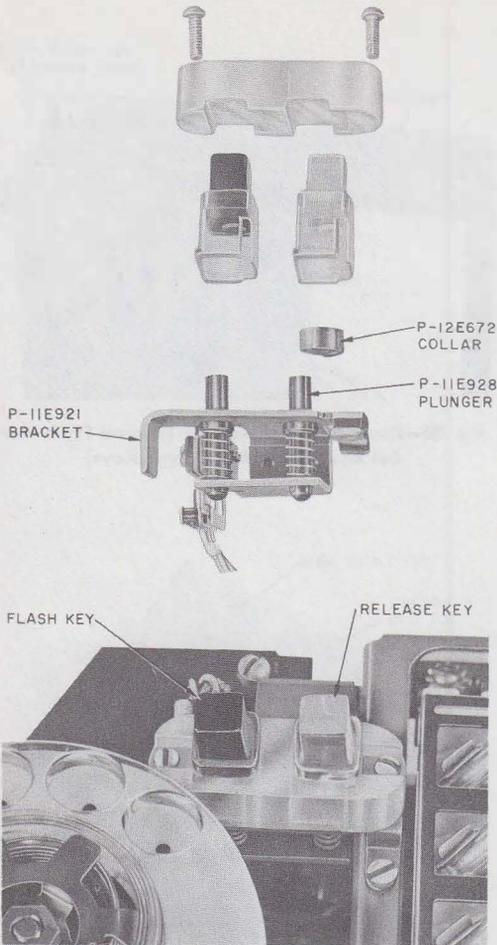

Fig. 28—P-11E987 Switch Assembly
- (1) Remove faceplate assembly.
- (2) Remove two switch assembly screws (Fig. 28).
- (3) Remove button assembly.
- (4) Place P-12E672 collar around P-11E928 plunger (Fig. 28).
- (5) Reassemble switch assembly.